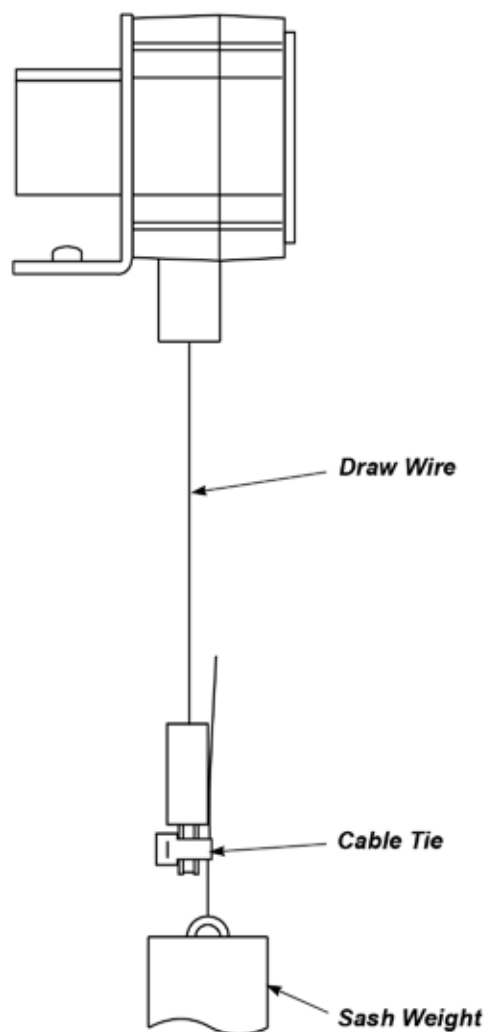

Figure 46 - Sash Position Sensor Draw Wire Attached by Cable Tie
- The counterweight using a cable tie as shown in Figure 46.